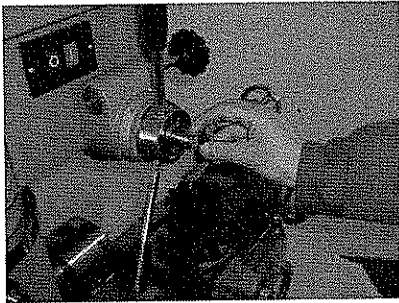
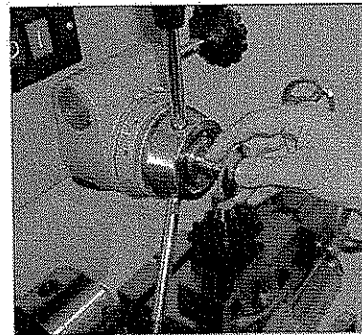
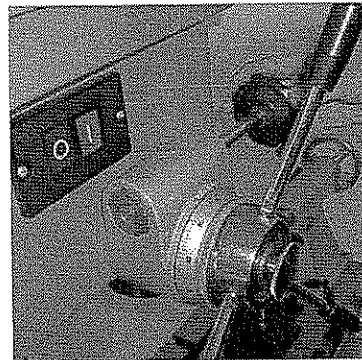

Fig. 8
Fig. 9
Fig.10
The drilling and milling feeds are carried out manually. For the vertical directions of drilling and milling, there is a fine-feed mechanism. Pull out the Clutch Handle (5) (as shown in Fig.8) and turn the Handle (3) to achieve quick feed; Push in the Handle (5) (as shown in Fig.9) and use the Fine-Feed Handle (6) for fine-feed applications (as shown in Fig.10)